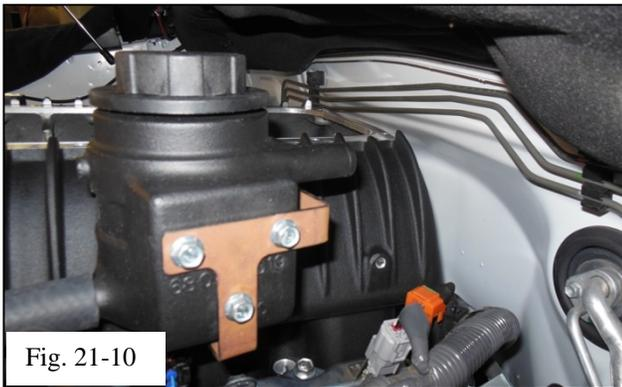

Fig. 21-10
- (k) Mount the reservoir (Item D2) to the reservoir bracket (Item A9) using the 3 bolts that came preinstalled in the reservoir (Fig. 21-10).